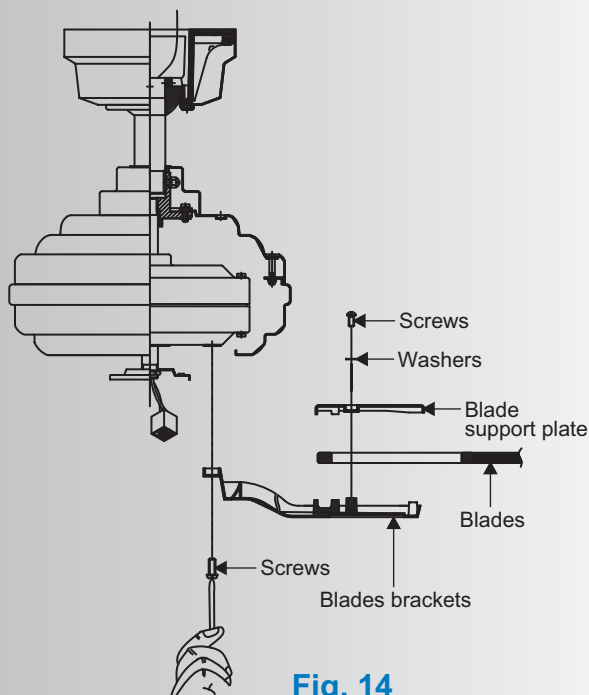

Fig. 14
Step 1. Attach blades to blade arm using the screws with washers and blade support plates provided. (Fig. 14)
Step 2. Attach each blade assembly to the motor using the "Pre-Installed" mounting screws in the blade bracket. (Fig 14)